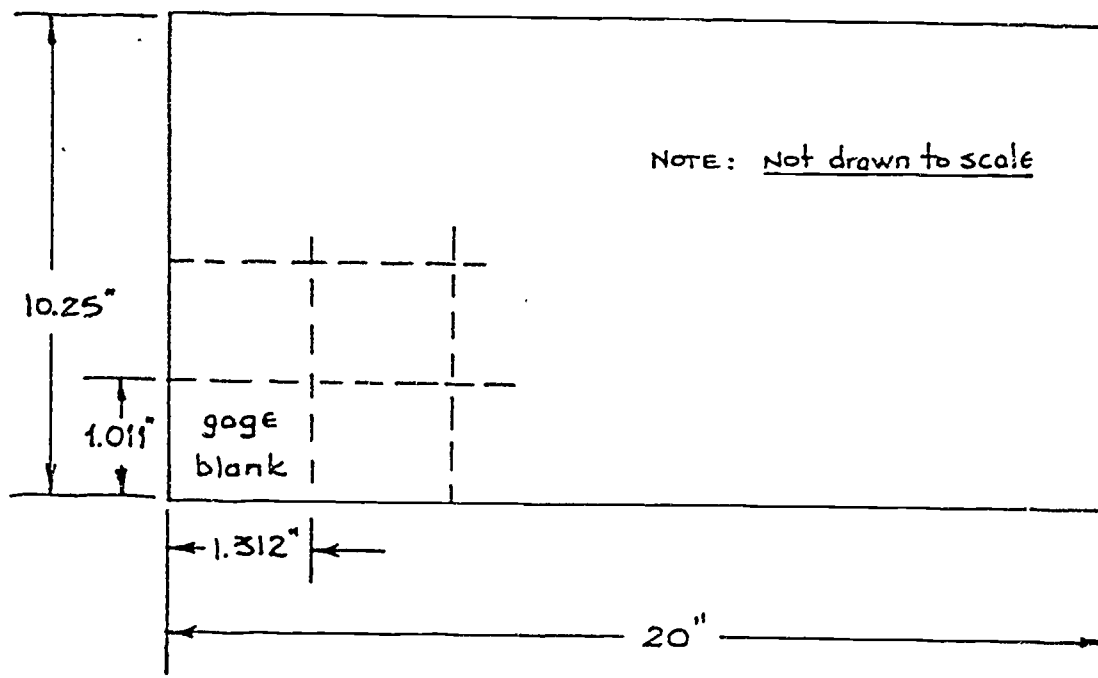

Figure 4: Dimensions for one gage blank.
7. On your job, you are given a piece of metal plate to lay out a pattern of small rectangular gage blanks. The dimensions are shown in Figure 4 below. If you forget about waste, how many blanks can you make from the sheet?